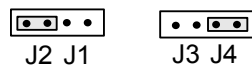

Fig.2 Input/output module jumper position J2, J4
- The jumper on the input/output module must be plugged onto J2/J4 (Fig. 2)